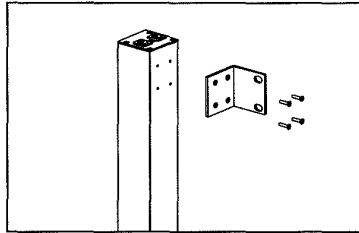
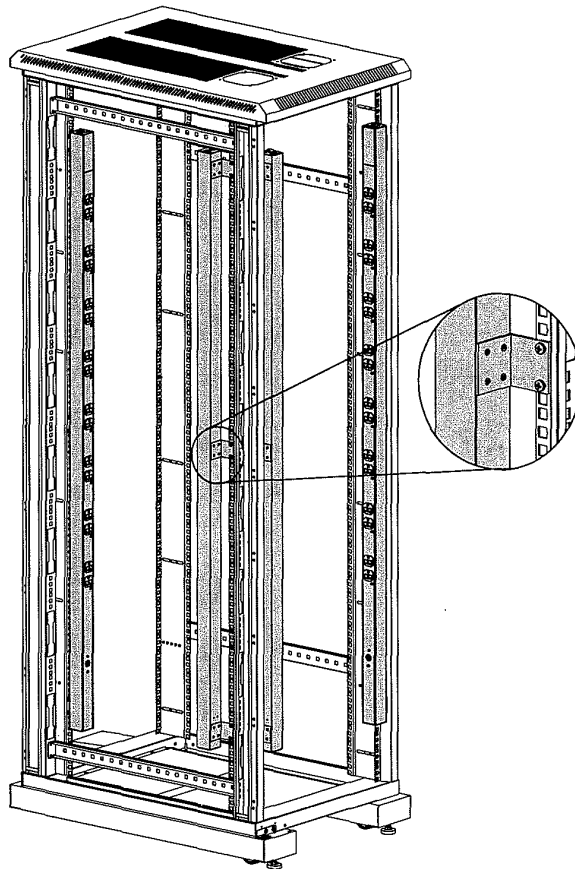

Figure 1: Attach the brackets to the rear of the unit.
Figure 2: Install MasterSwitch VM into the enclosure.
MasterSwitch VM comes with rack-mount brackets for mounting in an APC NetShelter enclosure or other standard (EIA310-D) 19-inch rack. To mount in a NetShelter enclosure, refer to Figure 1 and Figure 2 and perform the following steps in the order given:
- 3 Choose a suitable location for the unit. Figure 2 on page 5 shows the unit mounted in four different locations in the enclosure.
NOTE: The mounting procedure will vary according to the location you choose. To avoid interfering with shelves or equipment, install the unit so that it hangs on the outside edge of the vertical rail. Figure 2 on page 5 illustrates how to orient the brackets with the vertical mounting rail. Installing the unit so that it does not interfere with equipment may take some adjusting, depending on where you want to install the unit: